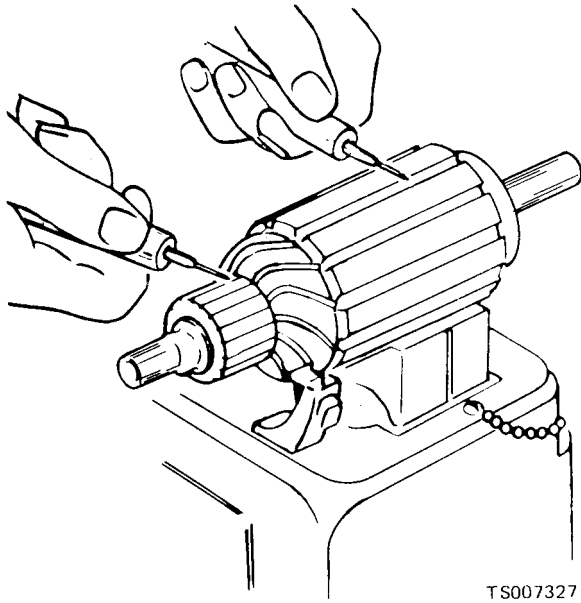

Figure 3-7. Testing for Grounds.
(5) Opens are usually found where the conductors are joined to the commutator. Loose or poor connections will cause arcing and burning of the commutator. If the bars are not burned too bad, resolder the leads in the riser bars and turn the commutator down in a lathe. Then undercut the insulation between the commutator bars $\frac{1}{32}$ inch.
(6) Grounds in the armature can be found using a test lamp and prods, figure 3-7. If the lamp lights when one prod is positioned on the armature core or shaft, the armature is grounded.